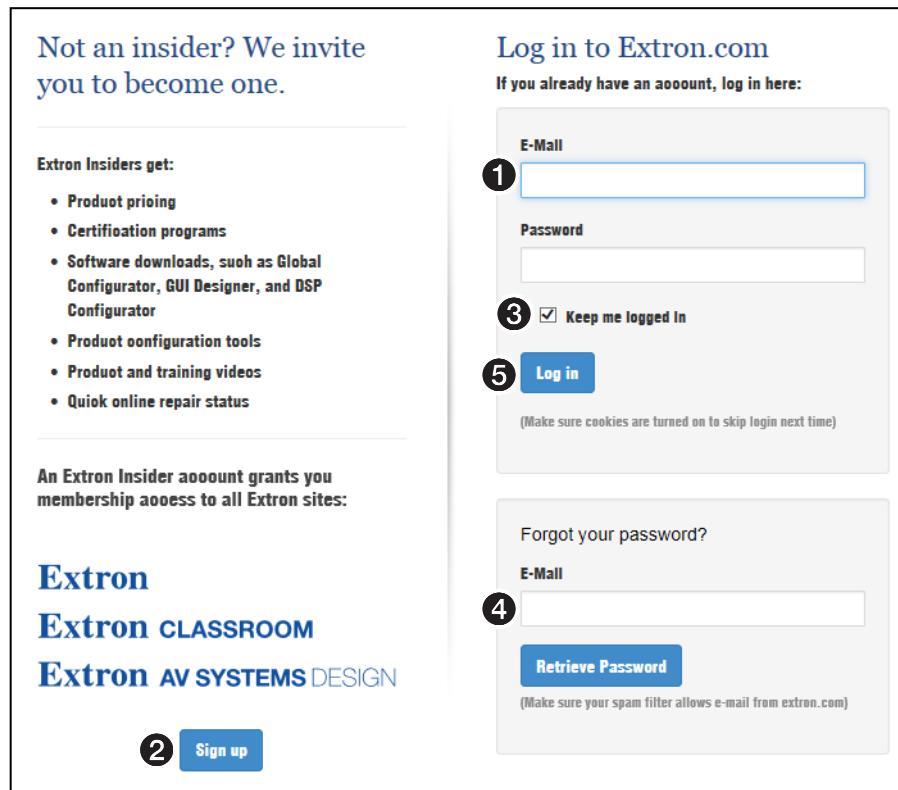

Figure 34. Log in Dialog Box
4. Click **Download** for the desired software or firmware package to download (②). The Log in dialog box appears (see **figure 34** on the next page).
- Enter the **E-Mail address** and **Password** associated with your Extron website account (see figure 34, **1**).